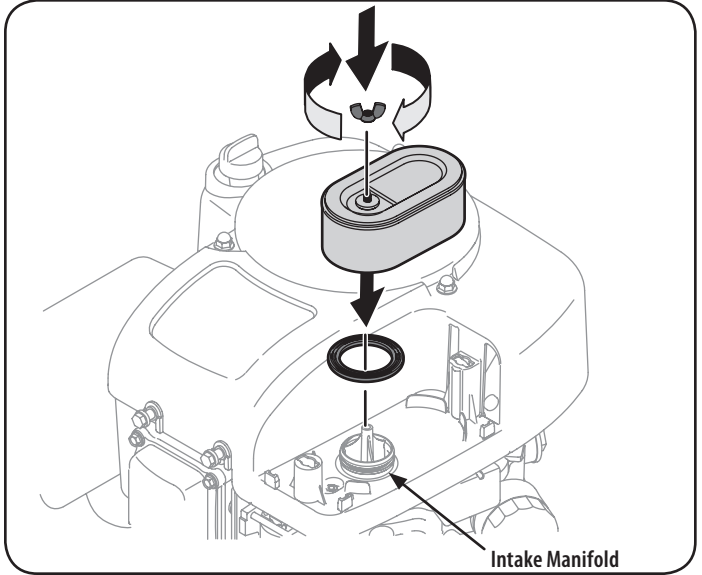

Figure 28
- Attach the new air filter with foam element, aligning the hole in the air filter with the intake manifold. See Figure 28. Secure with thumb screw.